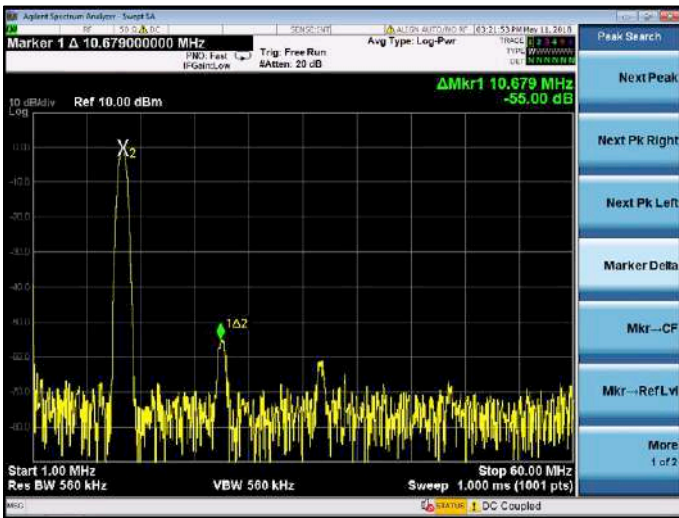

Figure 1. Spectrum of a 10.8-MHz signal without averaging.
**Figure 1** shows the typical spectrum of a 10.8-MHz signal.